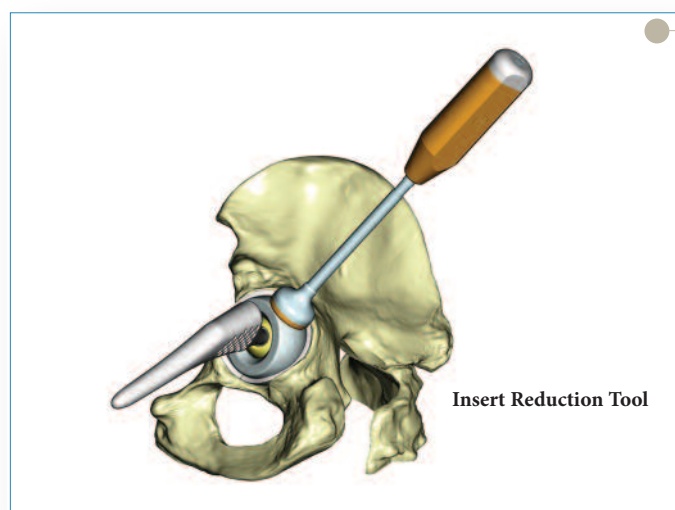

Figure 15
- ▶ Then, by exerting axial traction on the limb and pressure on the insert using the insert reduction tool (**Figure 15**), reduce the hip and check for laxity and range of motion. The surgical site is then closed according to surgeon preference.